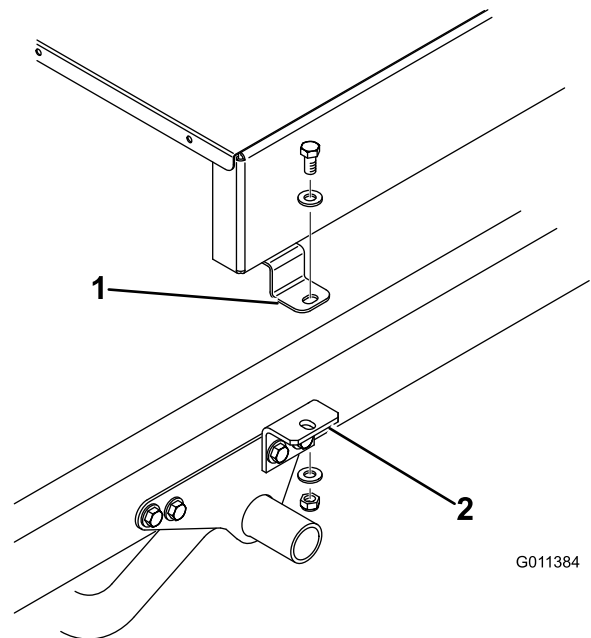
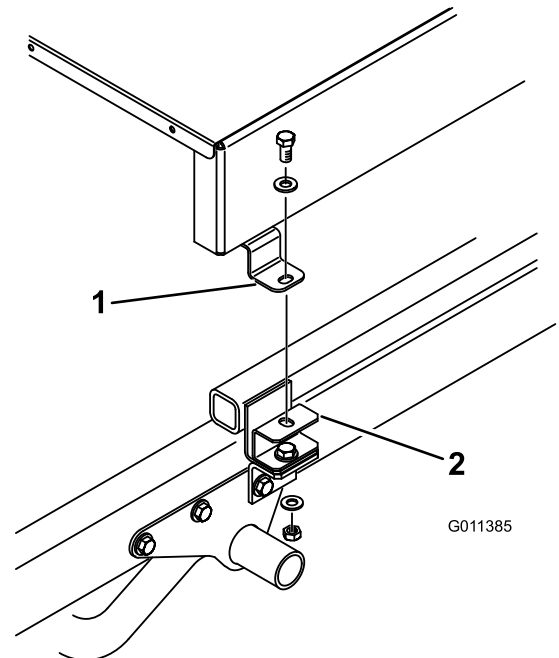

Figure 9
Figure 10
7. Loosely secure top of each attachment bracket (Figure 9) or spacer mount (Figure 10) to mounting tab on each side of TopDresser with a 1/2 x 1 inch capscrew, (2) flatwashers and locknuts. Tighten all fasteners.